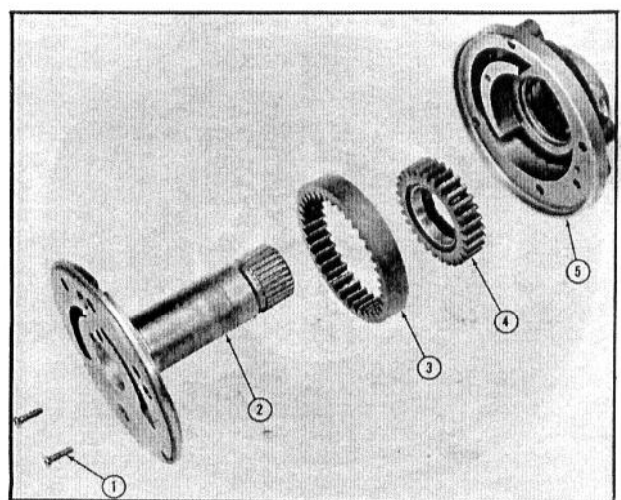

Fig. 26 — Oil Pump — Exploded View
4. Lift the inner and outer gears out of the pump body. See Fig. 26.